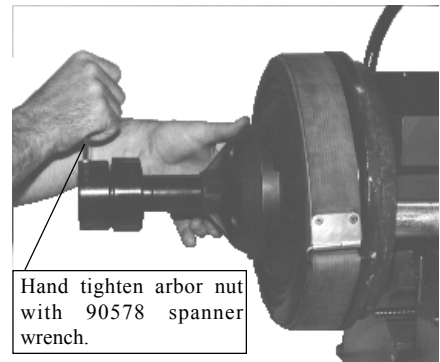

Figure 14
D. IMPORTANT: Do not overtighten arbor nut when mounting drums or rotors on the spindle. Usually the pressure of one hand with the Spanner Wrench engaged in the arbor nut is sufficient to tighten. **See Figure 14**. If spacers and adapters are not clean and free of nicks, burrs or foreign matter when the arbor is tightened, it could introduce spindle runout. This can be detected by observing the end of spindle when the arbor is revolving. If this occurs, check spacers and adapters for nicks, etc., to be sure they are smooth and clean and that the arbor nut is properly tightened.
E. Wrap a 90988 silencer around the drum (snug, but not too tight). **See Figure 14**. The rubber silencer deadens vibration of the drum while machining. A brake drum is like a bell and when it is machined without the silencer band, vibration is created by the cutter tip removing metal, resulting in a poor finish.
E. IMPORTANT: Do not overtighten arbor nut when mounting rotors on the spindle. Usually the pressure of one hand with the spanner wrench engaged in the arbor nut is sufficient to tighten. **See Figure 14.** If spacers and adapters are not clean and free of nicks and burrs or foreign matter when the arbor is tightened, it could introduce spindle runout. This can be detected by observing the end of the spindle when the arbor is revolving. If this occurs, check spacers and adapters for nicks, etc., to be sure they are smooth and clean and that the arbor nut is properly tightened.